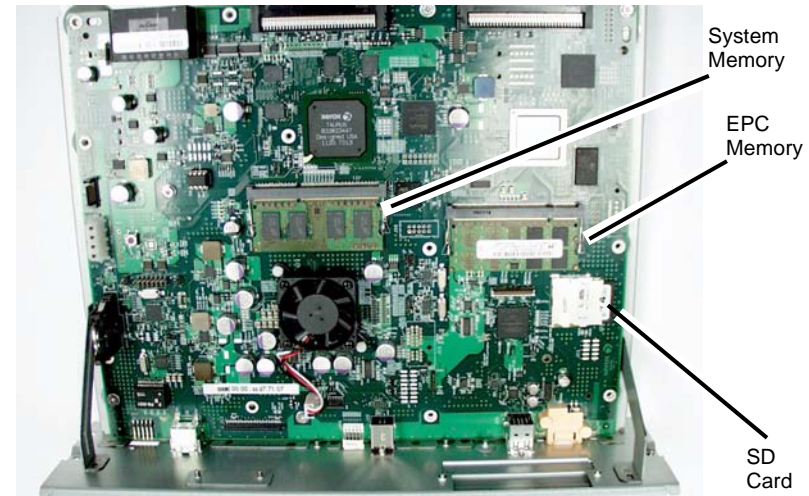

Figure 4 Removing the memory PWBs
9. Remove the System Memory and EPC Memory from the SBC PWB (Figure 4).
3. Install the System Memory and EPC Memory onto the new SBC PWB (Figure 4).